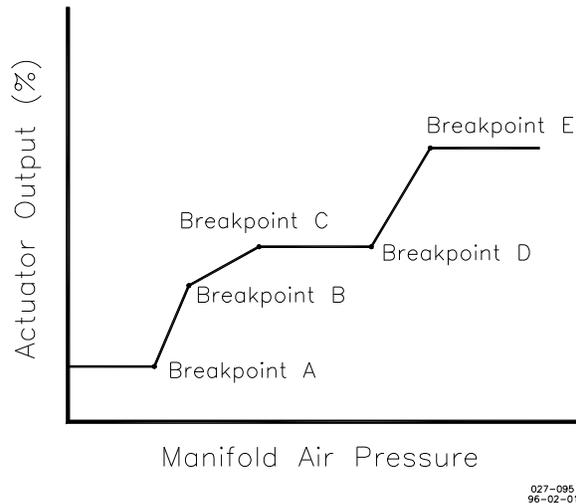

Figure 3-6. Fuel Limit Breakpoints
7. Map Breakpoint A is the Manifold Air Pressure value where the slope of the fuel limiter output changes (x-axis input in Figure 3-6). Breakpoint A must be set between 2 mA and Breakpoint B.
8. Fuel Limit at Breakpoint A is the percent actuator output current allowed when the Manifold Air Pressure is at or below Breakpoint A (y-axis input in Figure 3-6). The fuel limiter interpolates between Breakpoint A and Breakpoint B when the Manifold Air Pressure is between these two settings.
9. Map Breakpoint B is the Manifold Air Pressure value where the slope of the fuel limiter output changes (x-axis input in Figure 3-6). Breakpoint B must be set between Breakpoint A and Breakpoint C.
10. Fuel Limit at Breakpoint B is the percent actuator output current allowed when the Manifold Air Pressure is at Breakpoint B (y-axis input in Figure 3-6). The fuel limiter interpolates between Breakpoint B and Breakpoint C when the Manifold Air Pressure is between these two settings.
11. Map Breakpoint C is the Manifold Air Pressure value where the slope of the fuel limiter output changes (x-axis input in Figure 3-6). Breakpoint C must be set between Breakpoint B and Breakpoint D.
12. Fuel Limit at Breakpoint C is the percent actuator output current allowed when the Manifold Air Pressure is at Breakpoint C (y-axis input in Figure 3-6). The fuel limiter interpolates between Breakpoint C and Breakpoint D when the Manifold Air Pressure is between these two settings.
13. Map Breakpoint D is the Manifold Air Pressure value where the slope of the fuel limiter output changes (x-axis input in Figure 3-6). Breakpoint D must be set between Breakpoint C and Breakpoint E.
14. Fuel Limit at Breakpoint D is the percent actuator output current allowed when the Manifold Air Pressure is at Breakpoint D (y-axis input in Figure 3-6). The fuel limiter interpolates between Breakpoint D and Breakpoint E when the Manifold Air Pressure is between these two settings.
15. Map Breakpoint E is the Manifold Air Pressure value where the slope of the fuel limiter output changes (x-axis input in Figure 3-6). Breakpoint E must be set between Breakpoint D and 20 mA.
16. Fuel Limit at Breakpoint E is the percent actuator output current allowed when the Manifold Air Pressure is at or above Breakpoint E (y-axis input in Figure 3-6).
Figure 3-6 illustrates these breakpoints and adjustments.